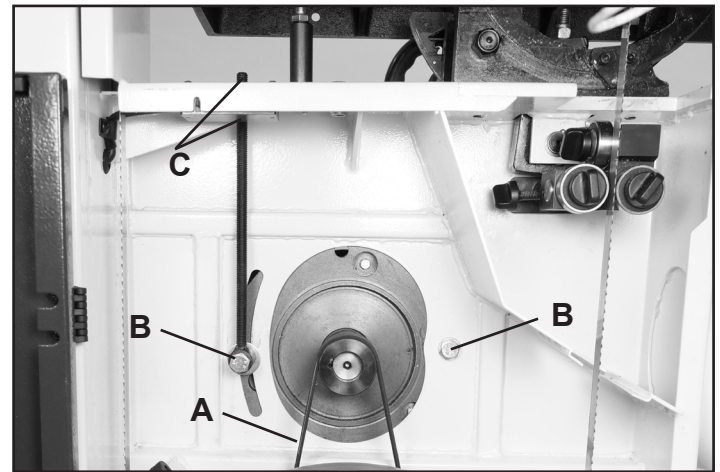
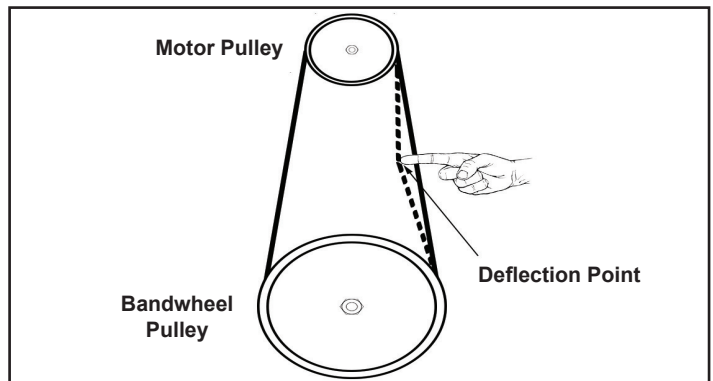

Figure 32
Figure 33
Check the Drive Belt (#87A, FIG. 32, A) tension with thumb pressure. The drive belt should not give more than 3/8" TO 1/2" in the center (Fig. 33). DO NOT over tension the belt as this can put excessive, damaging pressure on the belt, pulleys and motor.
1. Loosen the two Hex Bolts (Fig. 32, B) that secure the motor to the frame.
2. Loosen the Hex Nut on the top of the Motor Pulling Rod (Fig. 32, C). The motor should now be loose to move downward for adjusting the belt.
4. For *more tension* on the drive belt, lift the motor upwards. NOTE: There is a second hex nut on the motor pulling rod that is located *under* the frame. This second hex nut (Fig. 32, C) must be loosened to allow the motor to be lifted upwards.